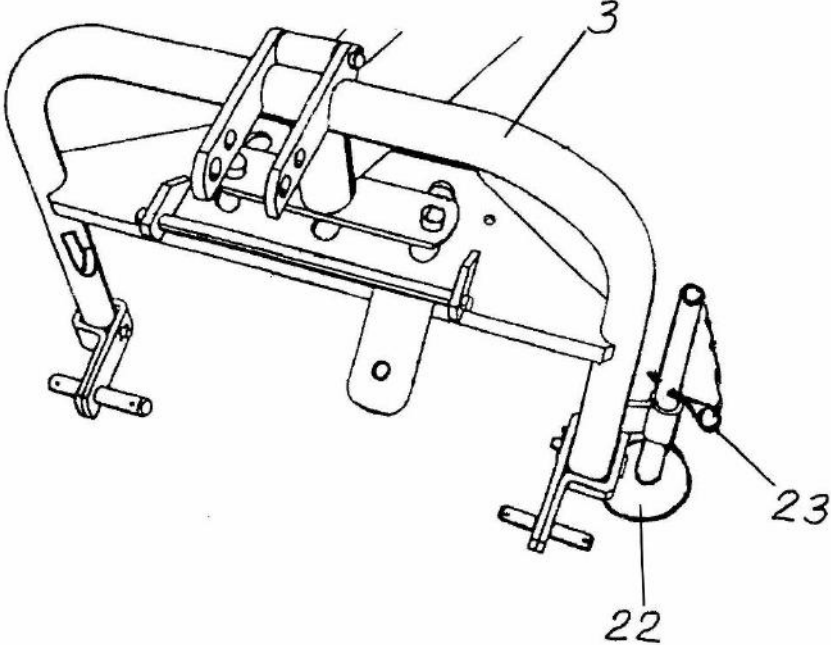

Fig. 12
- transporting and operation - upper setting, as shown in figure 12
- raise the landing leg 22 to upward position, as shown in figure 12
Landing leg 22 should be set to upper setting, as shown on fig. 12.